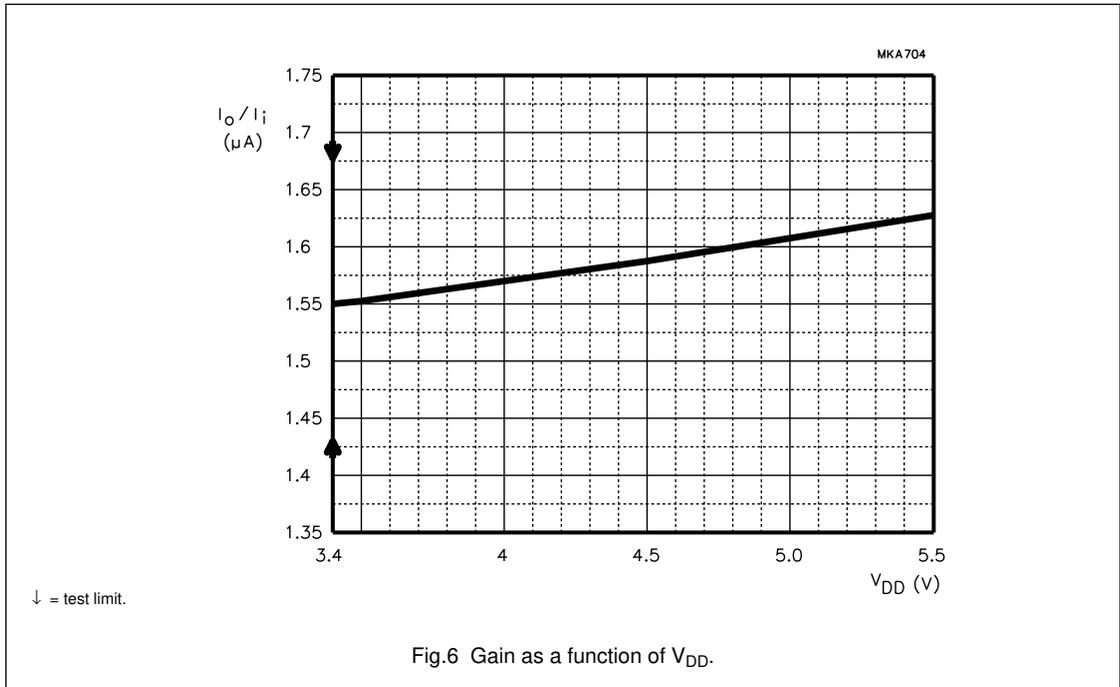

Fig.6 Gain as a function of V_{DD} .
2. The gain increases if a larger supply voltage is used (see also Fig.6).